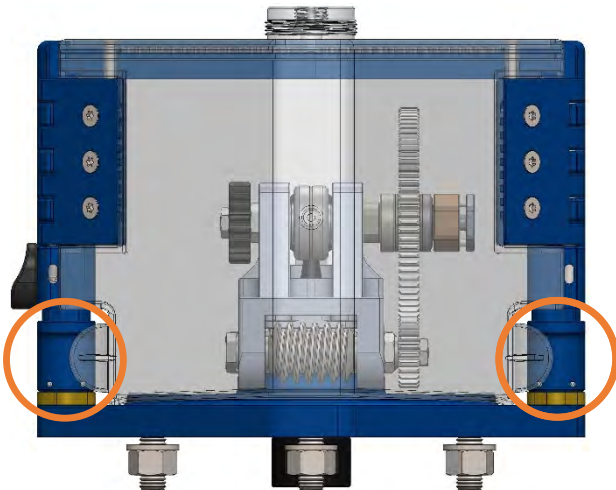

Figure 12
Figures 12 and 13
3. To replace the cover, simply reverse the process; then, carefully place the cover into its seat, ensuring that the side pins are aligned and apply moderate pressure to allow the locking mechanism to engage. Figures 12 and 13